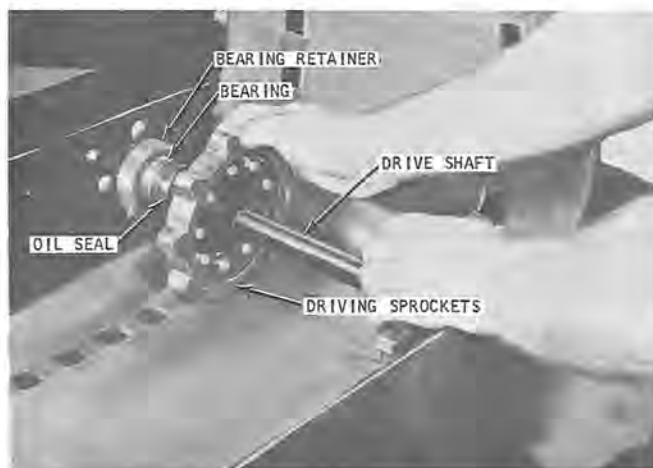

Figure 14
- Using a screwdriver, carefully pry the oil seals (figure 14) away from the bearings at each end of the drive shaft.